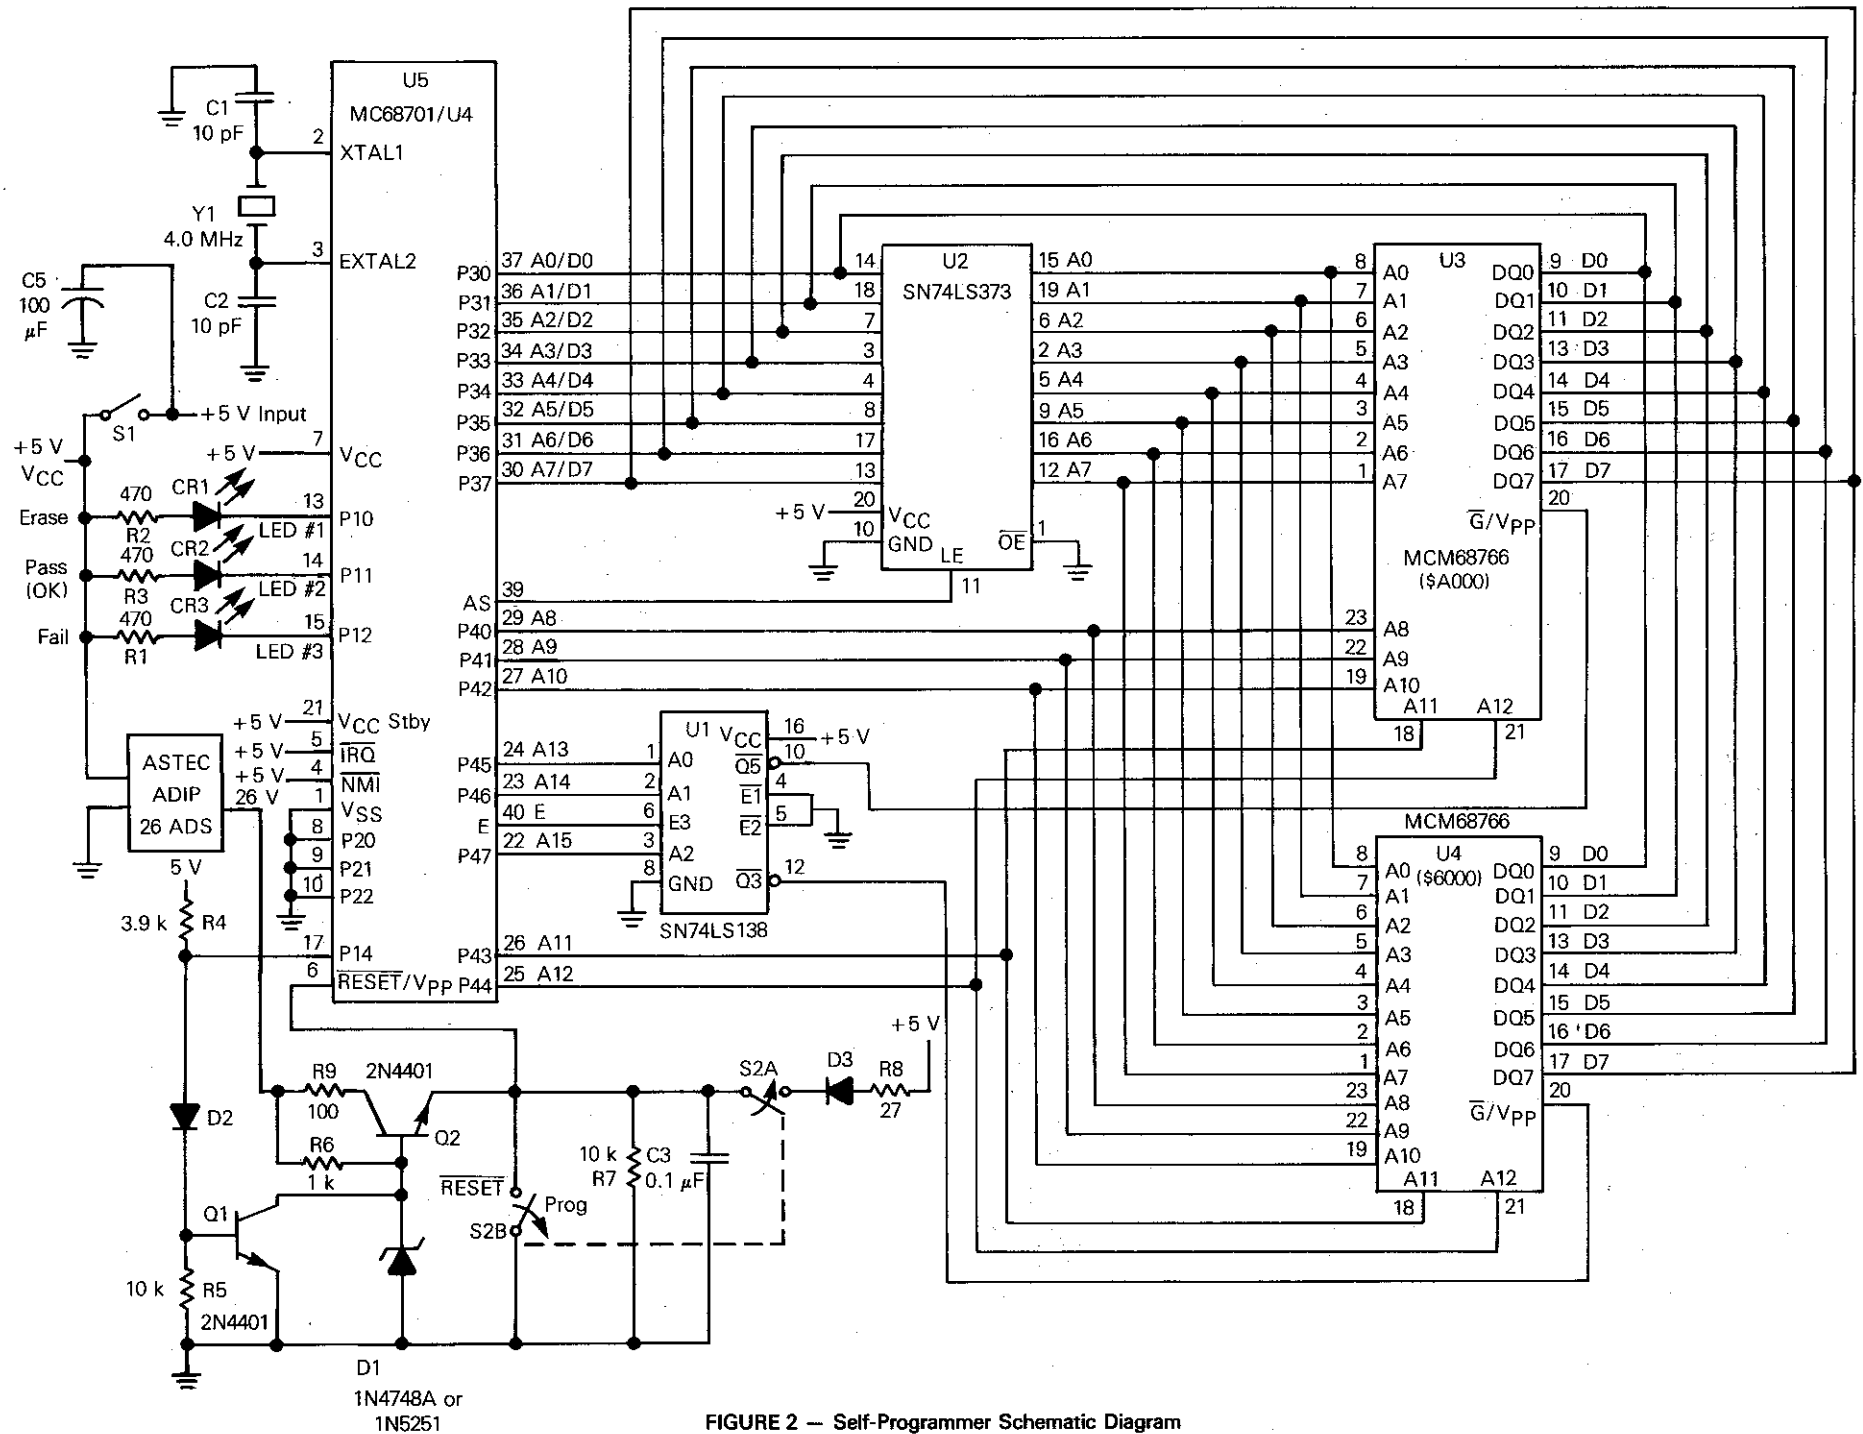

FIGURE 2 -- Self-Programmer Schematic Diagram
The MC68701/U4 self-programmer (see Figure 2) is designed for simplicity, low cost, and ease of use. The hardware and associated software provide for: (1) determination of which device type is being programmed, (2) verification that the inserted MCU is initially fully erased, (3) the programming of the MCU, and (4) verification of the programmed code.
The self-programmer consists of two MCM68766 EPROMs, a SN74LS373 transparent latch, a SN74LS138 1-of-8 decoder, a MCU socket, and associated parts as shown in Figure 2.